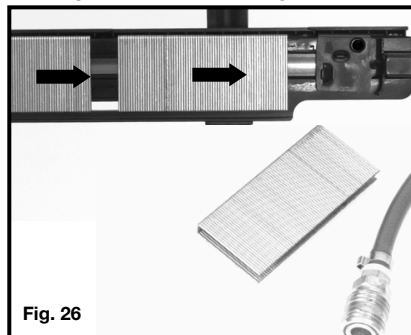

Fig. 27
2. Open the quick release latch and hinge fastener guide plate open (see Fig. 27).